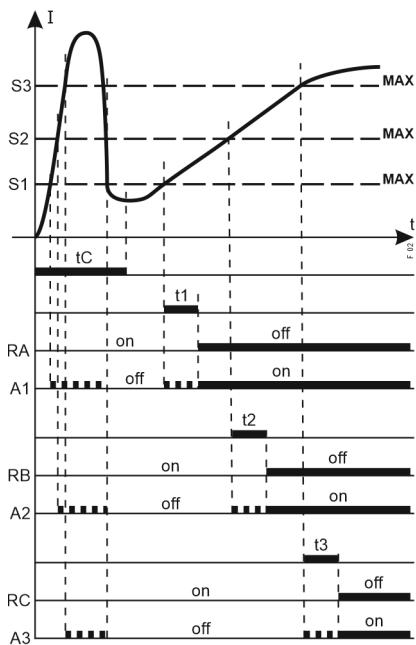

Fig. 2
- **SP3** : S1 attiva (MAX) (Fig. 2 e 3)
- **SP3** : S1 active (MAX) (Fig. 2 and 3)